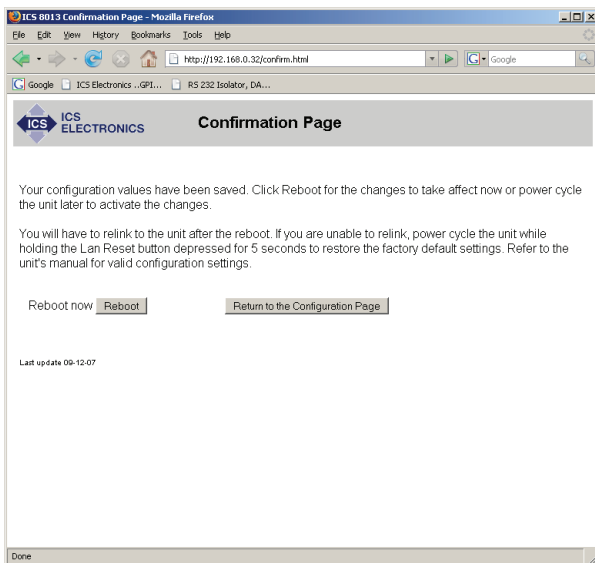

Figure 2-5 8013 Confirmation Page
6. Enter the new settings as desired. If you select DHCP for the TCP/IP Mode, the page blanks out the IP, Net and Gateway addresses as they will be supplied by your DHCP server. Check the entered values carefully as the unit's webserver does minimal error checking. Press the 'Update Flash' button when done. A Confirmation Page similar to the one shown in Figure 2-5 will appear in your browser.